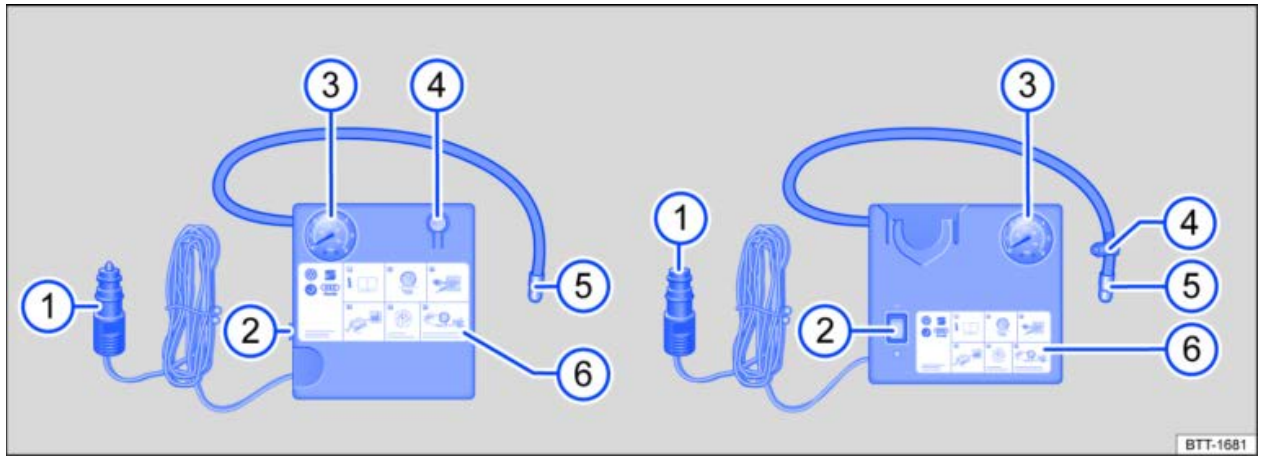

Fig. 2 General example: compressor in the tire mobility set.
The tire mobility set compressor consists of the following components → *fig. 2*:
- Screw the tire filler hose → *fig. 2* (5) of the air compressor firmly onto the tire valve.
- Check whether the air release valve → *fig. 2* (4) is closed.
- Insert the 12-volt plug → *fig. 2* (1) into a 12-volt-socket in the vehicle (→ *Sockets, Operation*).
- Switch the air compressor on with the ON and OFF switch → *fig. 2* (2).